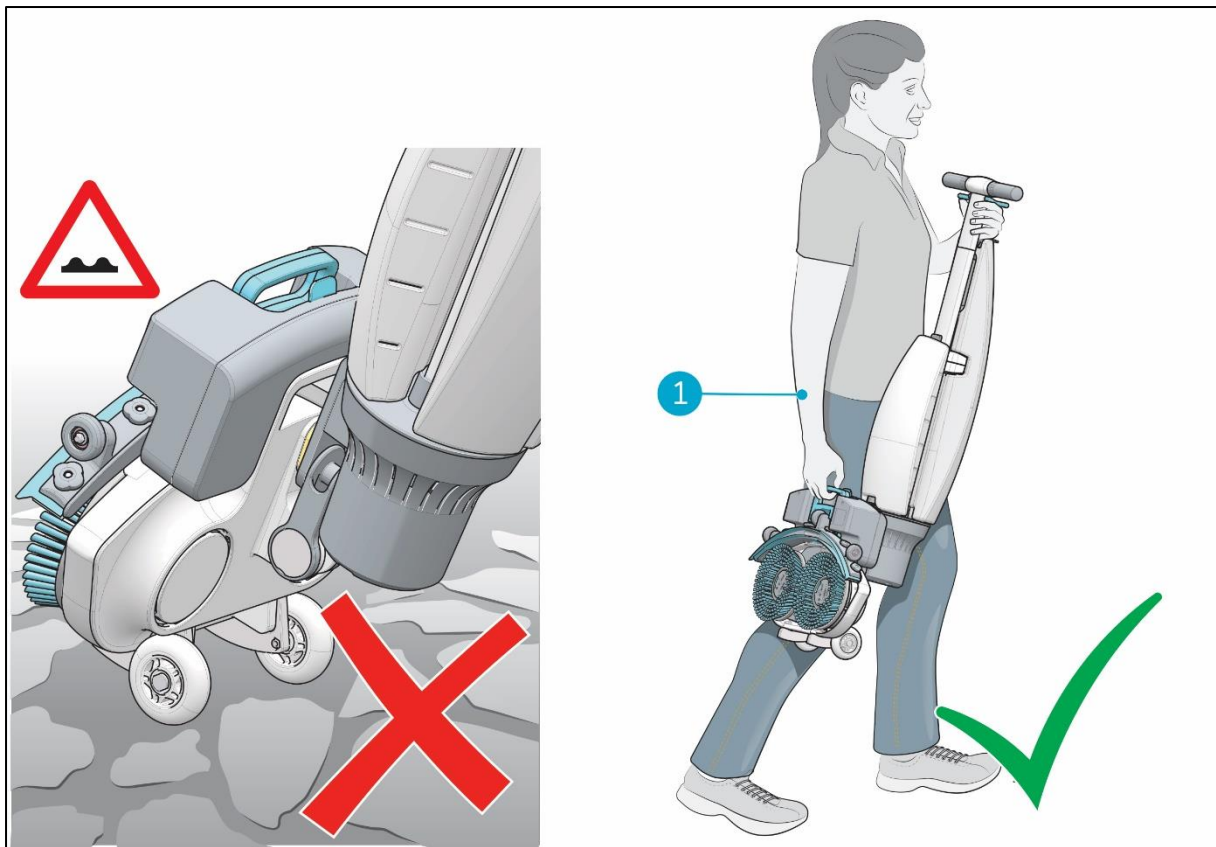

Figure 6
2. Carry the i-mop Lite with one hand while holding the handle (Figure 6, pos 1) with your other hand.